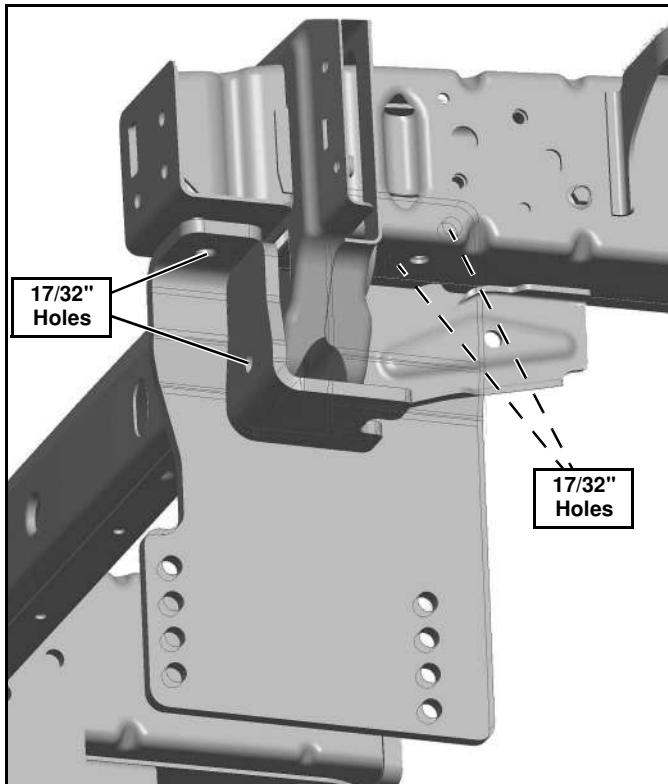

Figure 4
4. Use the four hole holes in Driver Side Mount Weldment (#2) as a template to center punch and drill  $\frac{1}{4}$ " pilot then  $\frac{17}{32}$ " holes in the truck frame (not through both sides of the frame) (See Figure 4).